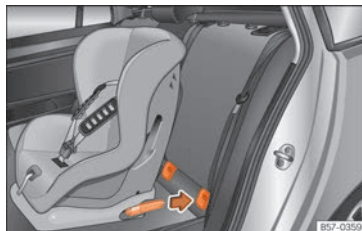

Fig. 24 Rear seats: fitting a child seat with the ISOFIX system.
- Press the child seat onto the "ISOFIX/iSize" retaining rings until the child seat is heard to engage securely »» Fig. 24. If the child seat is equipped with Top Tether* anchor points, secure it to the correspondent ring